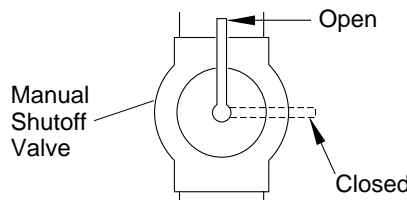

Figure 7 - Manual Shutoff Valve
1. Close manual shutoff valve (see Figure 7).
1. Open manual shutoff valve (see Figure 7).